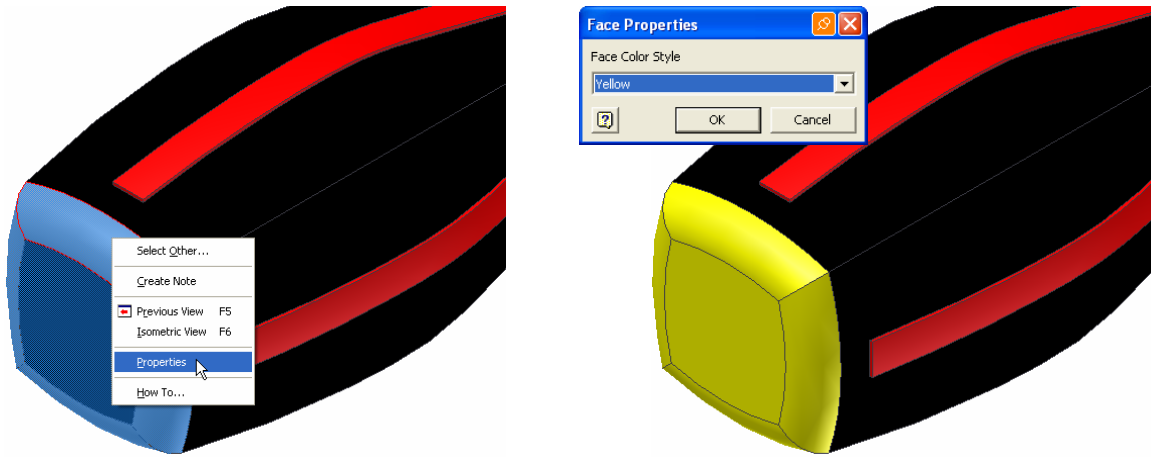

Figure 4
- Zoom in on the base of the screwdriver and select the four fillets and face that make up the base. After all five faces have been selected, as shown in Figure 4, right click and select **Properties** from the context menu to open the **Face Properties** dialogue. In the **Face Color Style**, select **Yellow** and click OK.